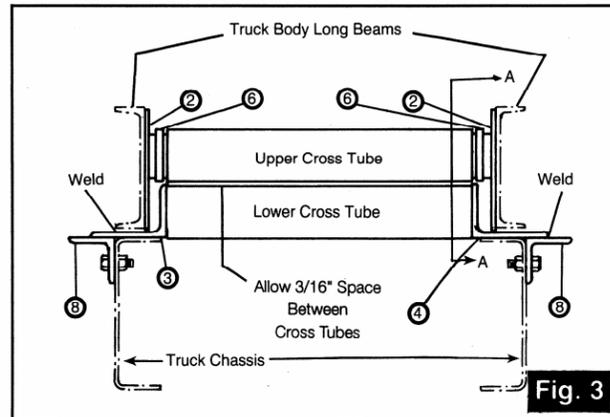

Fig. 3
Once the hoist position is determined then attach the hoist to the truck chassis with chassis angle (ITEM 8) and bolts provided. Fig. 3 & 4.
After the hoist lever is bolted in position, **WELD CHASSIS ANGLES** (ITEM 8) to chassis pivot brackets (ITEMS 3, 4). Fig. 3 & 4
- 6. INSERT THE UPPER ARM SWIVEL BRACKETS** (ITEM 2) and **TUBE SPACER** ITEM 6 into the hoist lever (Fig. 3). In a double acting hydraulic system it is possible to firmly lock the truck body onto the truck chassis and prevent box rattling. This is accomplished by opening the hoist lever approximately 3/16" by placing a temporary spacer between the upper and lower hoist cross tubes, before attaching the swivel brackets to the body long beams. Fig. 3.
If the truck box long beams are already attached to the truck body then position the body on the truck chassis. If the truck box long beams are not supplied with the truck box, then place the long beam channel on the truck chassis **WITH THE FLANGES FACING OUT**. As shown in Fig. 3.
Then secure upper arm swivel brackets ITEM 2 to the truck box long beams by welding. **POSITION TUBE SPACER** ITEM 6 against hoist upper cross tube and stitch weld tube spacer to upper arm swivel bracket tube. Fig. 3.